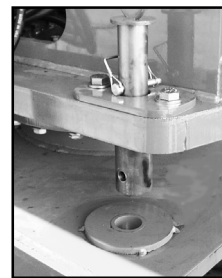

Figure 1: Locking Bolt
Note: Refer to Figures 1 through 4 for chassis and platform control locations.
3. Retract Locking Bolt. See Figure 1.